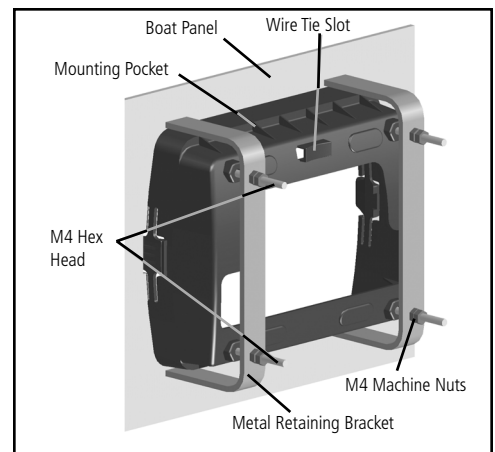

Figure 3
5. Insert the pocket in the panel (the Garmin logo should be positioned at the top). Install a M4 Hex Head Screw through the pocket and the corresponding hole in the Metal Retaining Bracket. Start a 4mm Hex Nut on the screw. Repeat the process until all 4 nuts are started (Figure 3). Tighten the M4 nuts using a 7mm wrench or socket. Avoid overtightening, which will distort the pocket and prevent the unit from snapping in properly. Install and tighten the second Hex Nut on all four Mounting Studs to lock the first one in place. *If operating in a high vibration environment it is recommended that you use a thread locking compound on the M4 Hex Head Screws.*